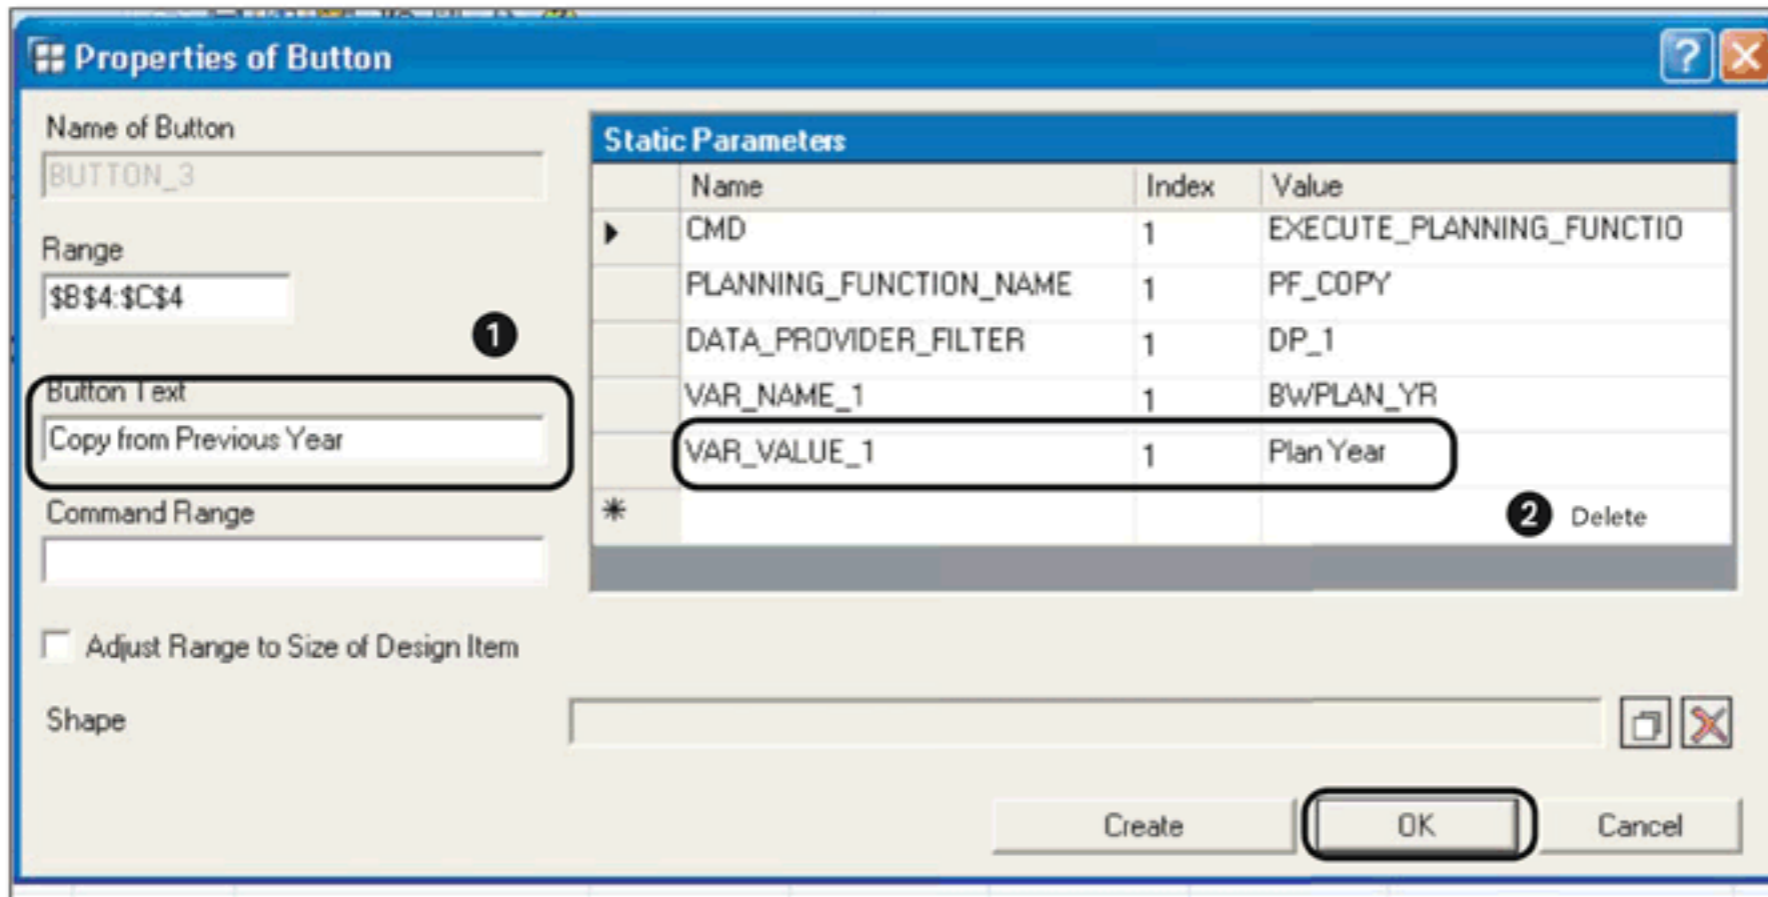

Figure 12.69 Maintain Properties of the Button
After you've defined the planning function and the data provider, click on the FINISH button to move to the next screen. This is where you can set the button properties and other parameters related to the planning function (Figure 12.69). Maintain the BUTTON TEXT, as shown in ❶ of Figure 12.69.